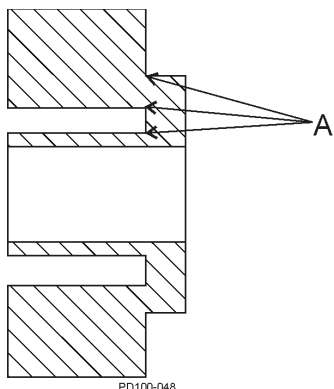

Figure 29 - Rotor Stress Points
- Thoroughly inspect the rotors for worn keyways, hub wear and stress cracks (Figure 29, item A). Use the dye check method to detect any fatigue-type cracks at rotor stress points.